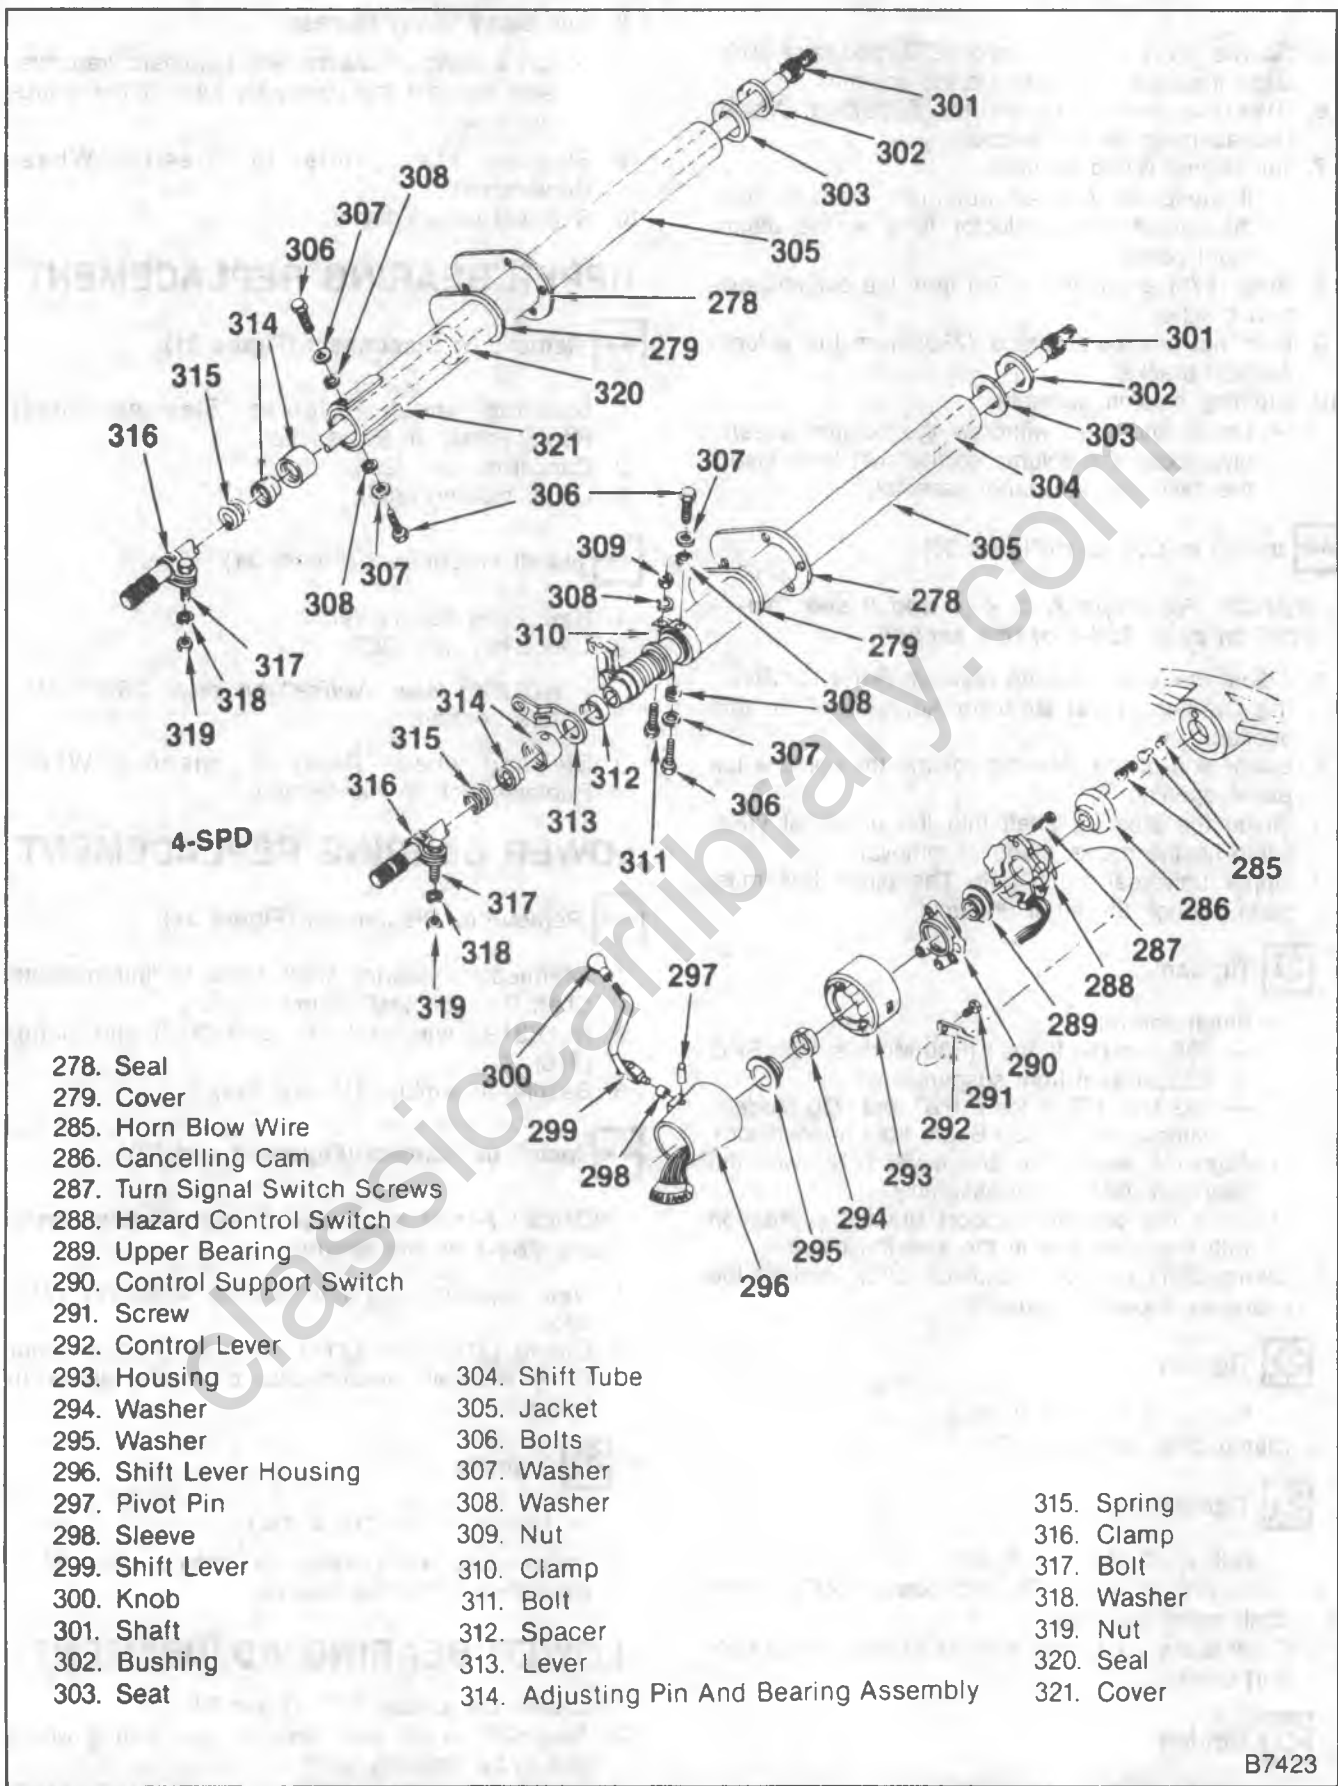

Figure 31—Standard Steering Column — P-Model; except Motorhome
**Remove or Disconnect (Figure 31)**
2. Cancelling cam (286).
3. Upper bearing (289).
**Install or Connect (Figure 31)**
1. New upper bearing (289).
2. Nut (319), washer (318), bolt (317) and clamp (316).
**Install or Connect (Figure 31 and 32)**
1. Loosen clamp bolt (317) (figure 31).
MANUAL TRANSMISSION (Figure 31 and 33).
AUTOMATIC TRANSMISSION (Figure 31 and 34).
Disassemble (Figure 31)
Assemble (Figure 31)